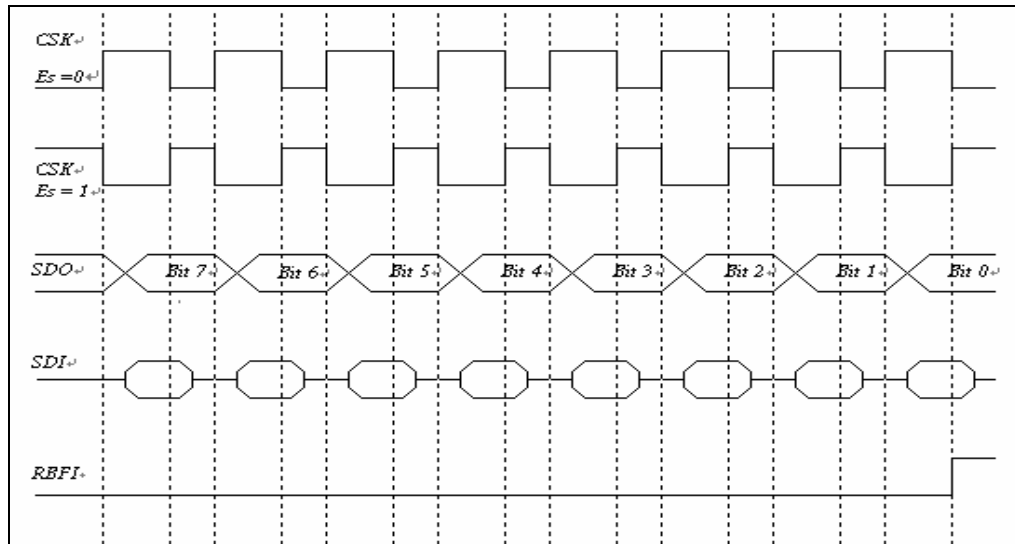
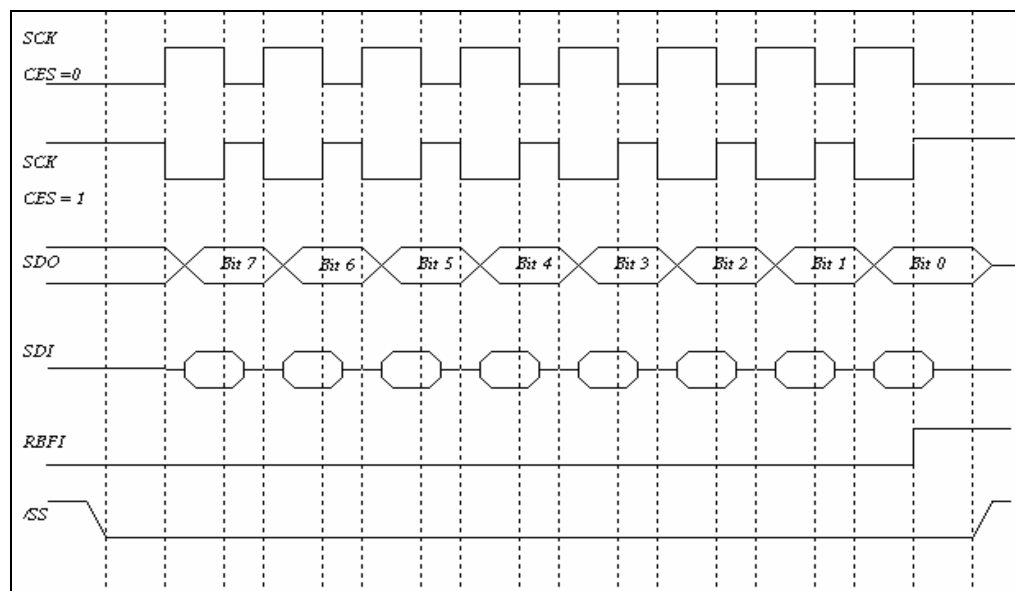

Fig. 6-32 SPI Mode with /SS Disable
Fig. 6-33 SPI Mode with /SS Enable
- Timing is shown in Fig.6-32 and 6-33
- Timing is show in Fig.6-32 and 6-33
The SCK edge is selected by programming bit CES. The waveform shown in Fig.6-32 is applicable regardless whether the EM78R652 is in master or slave mode, with /SS disabled. However, the waveform in Fig. 6-33 can only be implemented in slave mode, with /SS enabled.